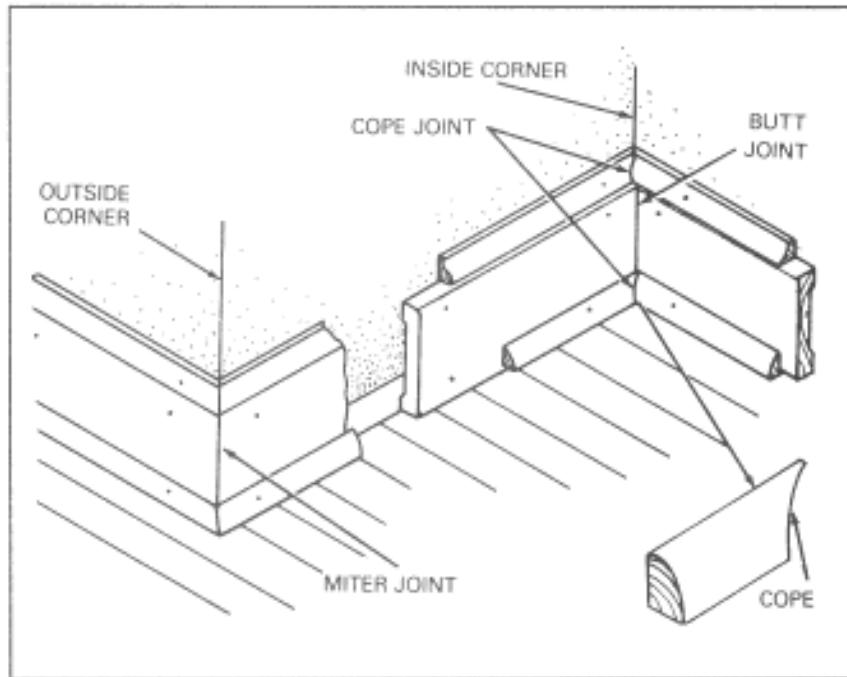
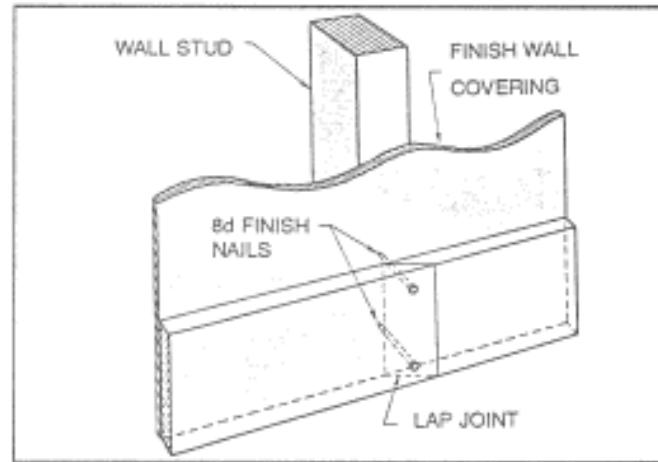
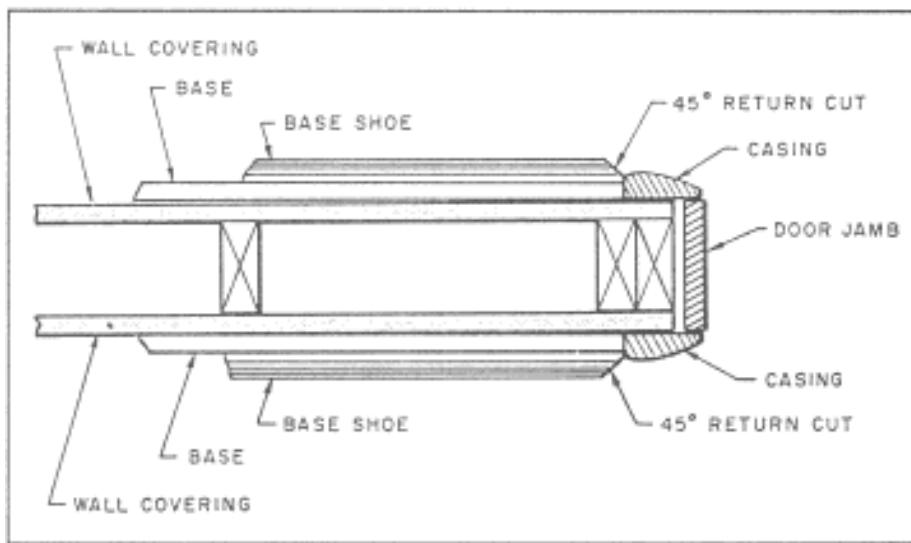

Figure 9-7. Installing base molding
Figure 9-8. Trim lap-miter joint
Figure 9-9. Base-shoe trimming
*Square-edge (or two-piece) baseboard* consists of a square-edged baseboard topped with a small base cap. When the wall covering is not straight and true, small base molding will conform more closely to the variations than will a one-piece base alone. This type of baseboard is usually 5/8 x 3 1/4 inches or wider. Installation of square-edged baseboard is shown in Figure 9-7.
Baseboard should be installed with a butt joint at the inside corners and a mitered joint at the outside corners. (The baseboard installation in Figure 9-7 is done with square-edge baseboard.) It should be nailed to each stud with two 8d finishing nails. Base molding should have a *coped joint* at inside corners and a mitered joint at outside corners. A coped joint is one in which the first piece is square cut against the plaster or base and the second molding is coped. This is done by sawing a  $46^\circ$  miter along the inner line of the miter. The base shoe should be nailed into the subfloor with long, slender nails, but not into the baseboard itself. Then, if there is a small amount of movement in the floor, no opening will occur under the shoe. When several pieces of molding are needed, they should be joined with a lap miter (Figure 9-8). When the face of the base shoe projects beyond the face of the molding, it abuts (Figure 9-9).